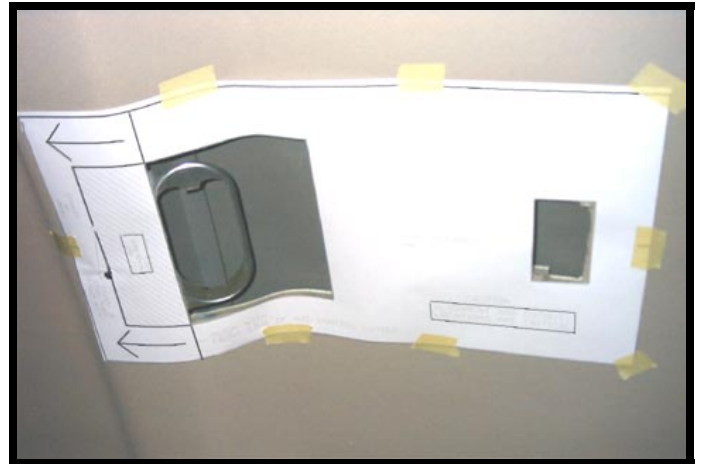

FIGURE 2
2. Cut template (item 7 pg 2) in area #1. Locate and tape template to the headliner. Make sure template is centered left to right in vehicle and mark area to be cut. Remove template and trim headliner. Cut template areas #2 & #3 and reinstall the template to the headliner. Ensure area #1 of the template hole locations are aligned with the OEM bracket holes. Mark and trim headliner. **The rear cutout is critical, do not overcut or the opening will be visible when the console is installed. See Fig. 2. Caution: Before cutting headliner material, check for wiring or other componentry above headliner. Cut only where indicated.**